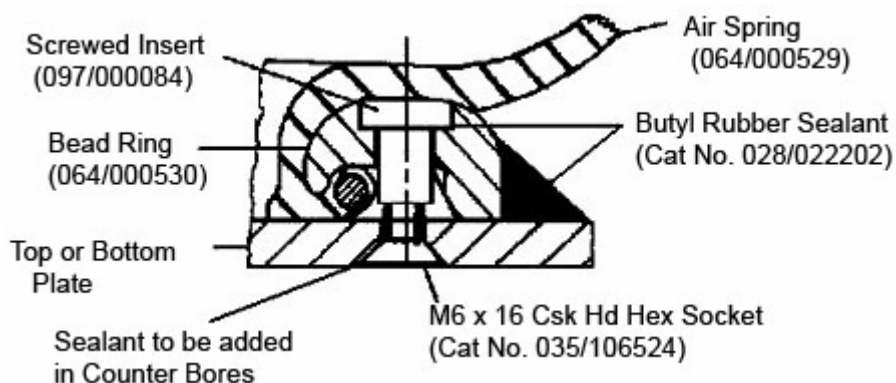

Figure 2: Part Section of Air Spring Joint
8. Reassemble spring to bottom plate using new M6 x 16 countersunk head screws to Cat No. 035/106524, tightened to 12Nm, in a crosswise fashion and Butyl Rubber sealant to Cat No. 028/022202 (see Figure 2).